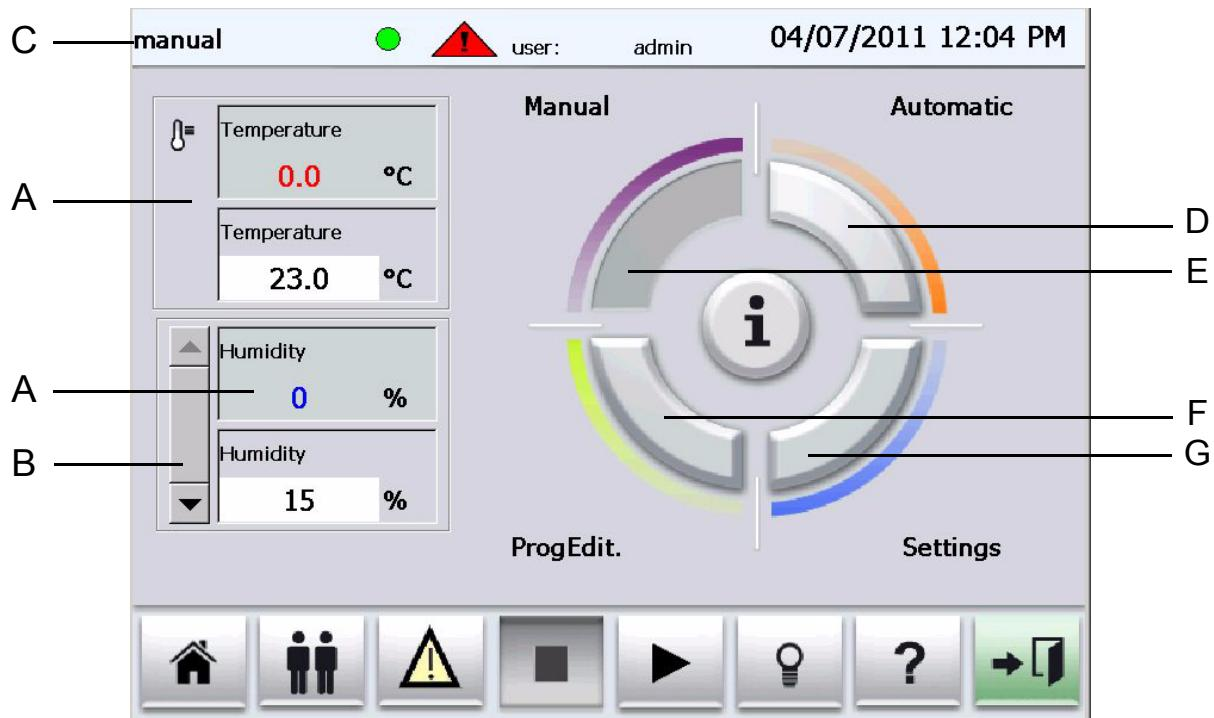

Fig. 4-1
- refer to chapter 4.1 , Fig. 4-1 (page 41)